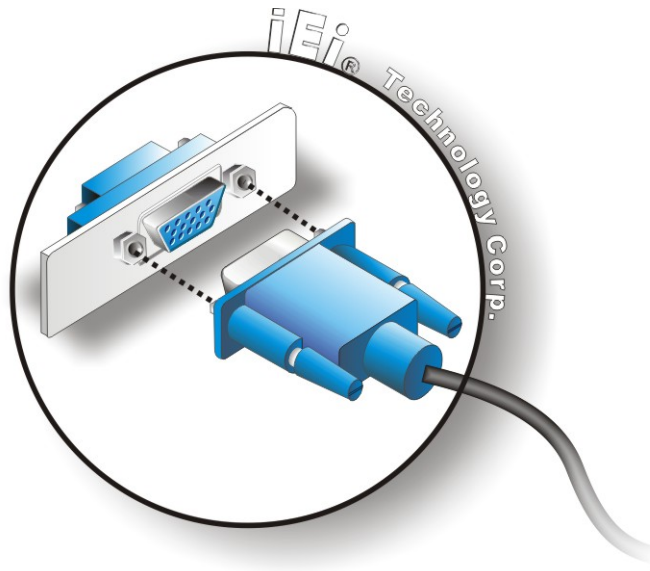

Figure 5-28: VGA Connector
- Step 3:** **Insert the VGA connector.** Once the connectors are properly aligned with the insert the male connector from the VGA screen into the female connector on the IMBA-9454ISA. See **Figure 5-28**.